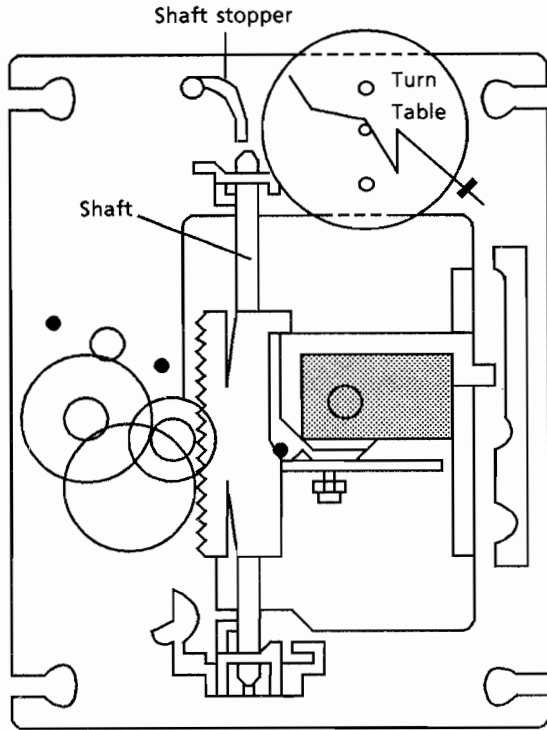

Fig 10 CD mechanism assembly
2. Release the shaft to remove the pickup (Fig 10).